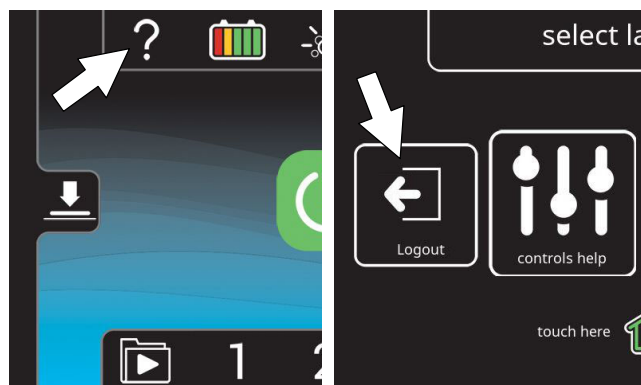

FIG. 181
7. When the user is done operating the machine, it is recommended the user log out by pressing the help button, and then pressing the logout button (Figure 181). Turning the key to the off position is another way to also logout